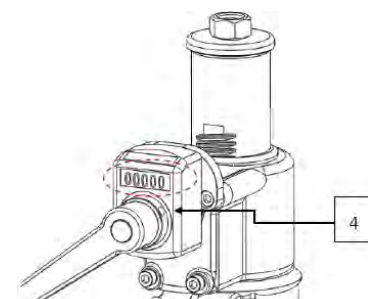

Fig. 38: Reset counter
Step 4: Tighten the screw (Pos. 4, Fig. 38), now the counter is reset to zero.